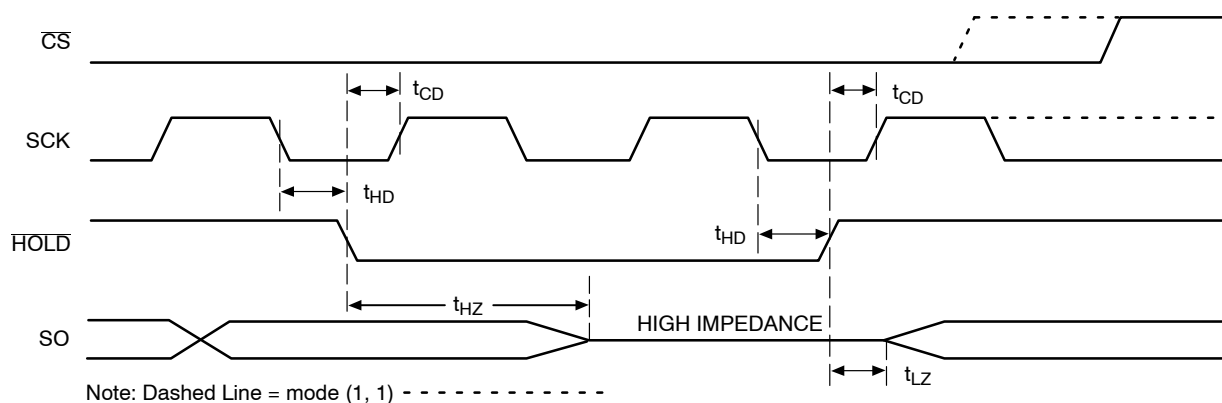

Figure 11. $\overline{\text{HOLD}}$ Timing
The $\overline{\text{HOLD}}$ input can be used to pause communication between host and CAV25M01. To pause, $\overline{\text{HOLD}}$ must be taken low while SCK is low (Figure 11). During the hold condition the device must remain selected ($\overline{\text{CS}}$ low). During the pause, the data output pin (SO) is tri-stated (high impedance) and SI transitions are ignored. To resume communication, $\overline{\text{HOLD}}$ must be taken high while SCK is low.